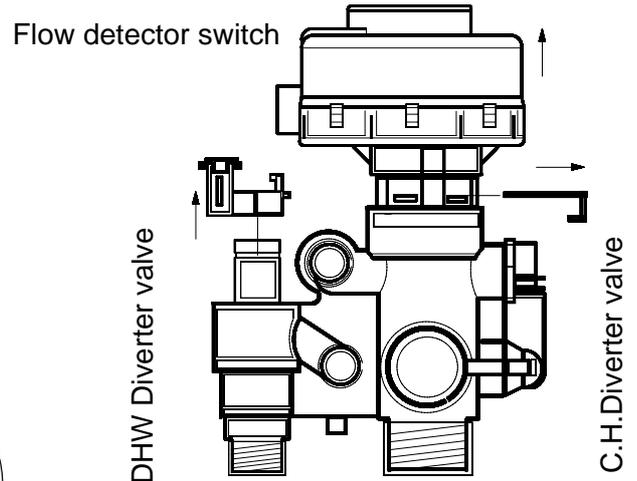

Fig.48
- 8.17.1.3 Remove the flow detector as fig.48.